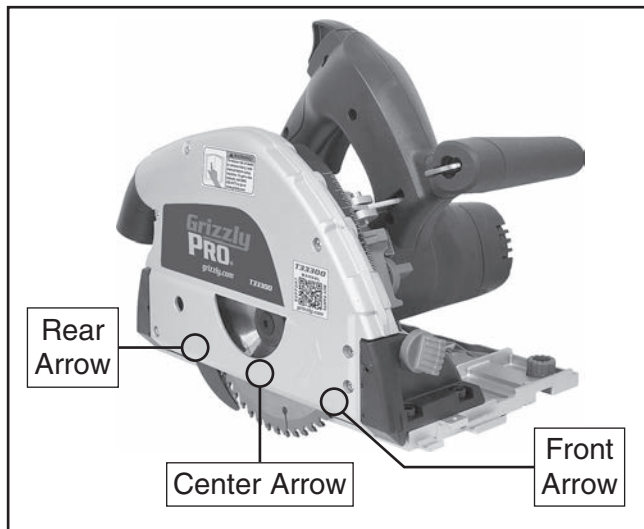

Figure 16. Cutting indicator arrows.
3. Align start cut-point with rear cutting indicator arrow (see **Figure 16**).